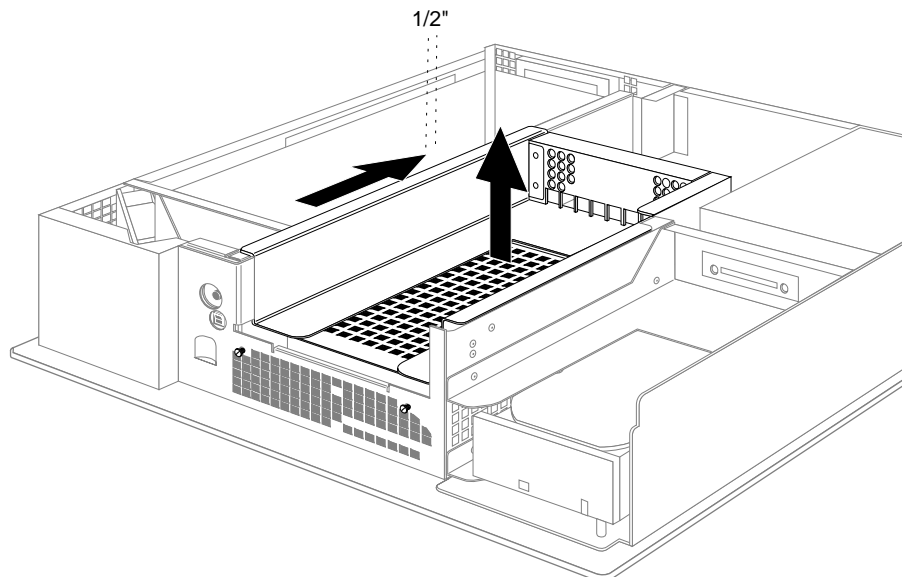

Figure 2-3 Removing the 5-1/4" Drive Tray From the Chassis
5. Push the drive tray toward the back of the workstation about 1/2", and pull up to remove the tray, as shown in Figure 2-3.